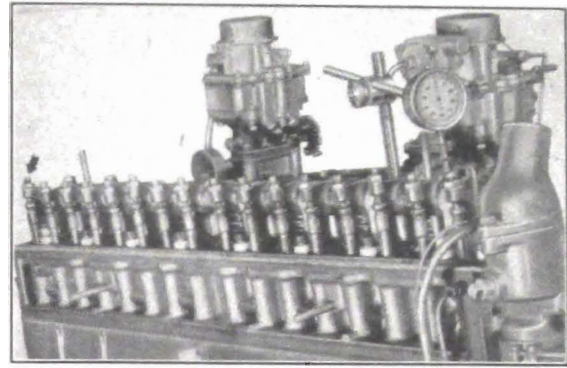

Fig. 6-26B. Checking with Indicator
4. Indicator may be mounted on special stud which can be made up in any shop. This stud is to be screwed into place after removing the top or long rocker arm bracket cap screw. Any standard dial indicator may be used and set up on No. 1 exhaust adjusting screw as shown in Fig. 6-26B.